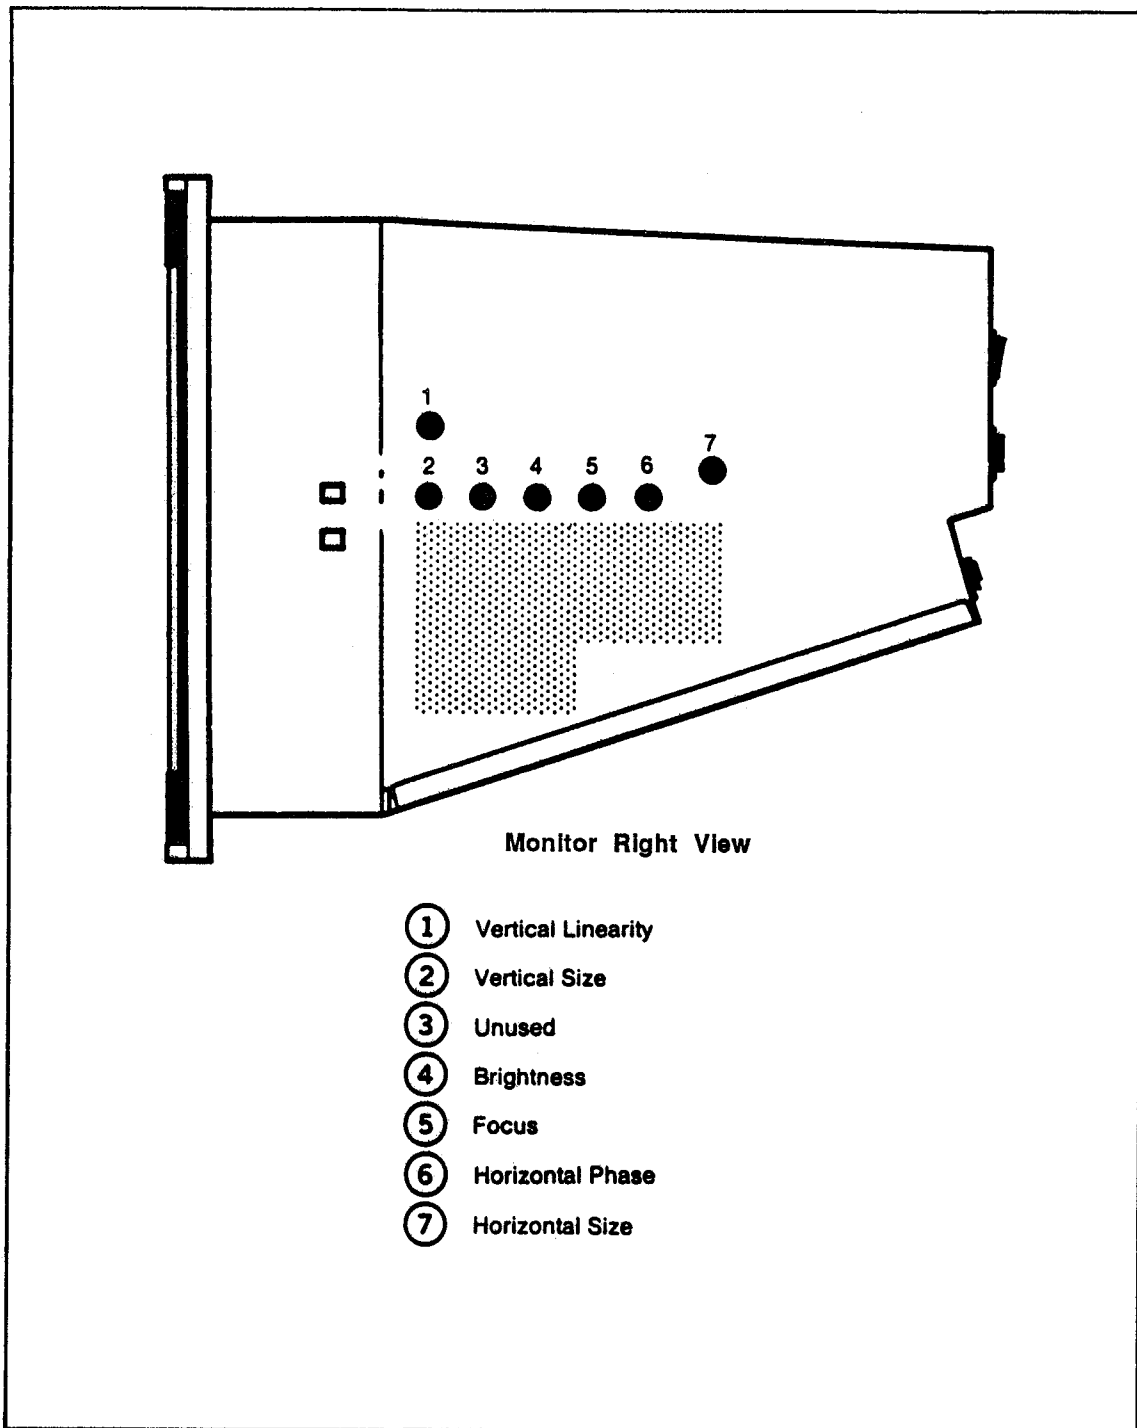

Figure 4-7. External Display Adjustment Locations
The first six of these controls can be adjusted externally through holes in the monitor chassis (shown in Figure 4-7). Adjusting horizontal size requires hex adjustment tool (P/N 572321). Contrast is an external operator adjustment. Adjusting all other controls requires the use of an adjustment tool (P/N 800540).
1. If necessary, remove the monitor cover. Then, locate the external display adjustment holes. See Figure 4-7.
5. Locate the Horizontal Linearity control on the Display PCA (see Figure 4-7.) Adjust Horizontal Linearity so that the left half of the display is the same size as the right half of the display. Since the open chassis cover has a slight effect on Horizontal Linearity, close the chassis cover to verify Horizontal Linearity and keep it closed for the remainder of the procedure. Linearity is also slightly affected by the unit being upside down.